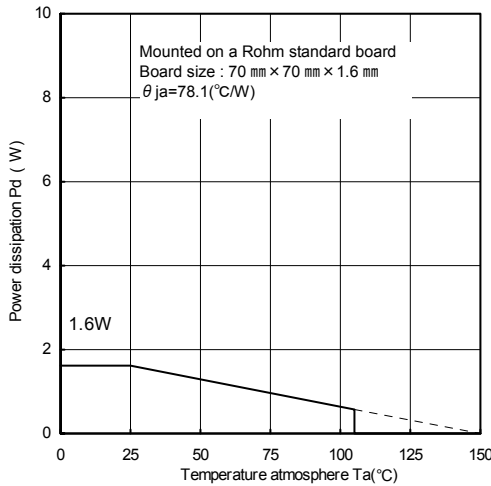
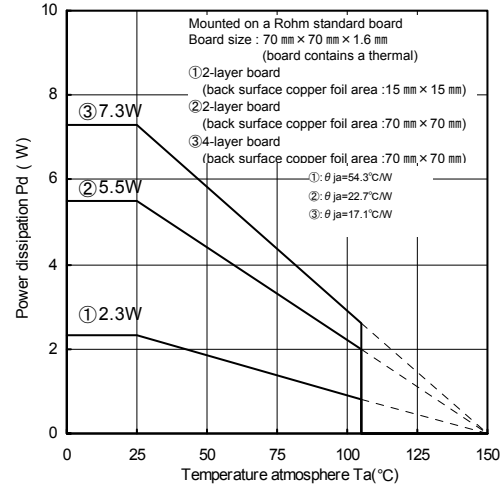

Fig.15
Fig.16 (Reference data)
When using at temperatures over $T_a=25^\circ\text{C}$, please refer to the heat reducing characteristics shown in Fig.15. and Fig.16. The IC characteristics are closely related to the temperature at which the IC is used, so it is necessary to operate the IC at temperatures less than the maximum junction temperature $T_{j\text{max}}$.
Fig.15 and Fig.16 shows the acceptable loss and heat reducing characteristics of the HRP5 package. Even when the ambient temperature T_a is a normal temperature (25°C), the chip (junction) temperature T_j may be quite high so please operate the IC at temperatures less than the acceptable loss P_d .
The calculation method for power consumption $P_c(\text{W})$ is as follows : (Fig.16③)
$$I_o \leq \frac{3.796 - 10 \times I_b}{5} \quad \left[\begin{array}{l} \text{Fig.16③: } \theta_{ja}=17.1^\circ\text{C/W} \rightarrow -58.4\text{mW}/^\circ\text{C} \\ 25^\circ\text{C}=7.3\text{W} \rightarrow 85^\circ\text{C}=3.796\text{W} \end{array} \right]$$